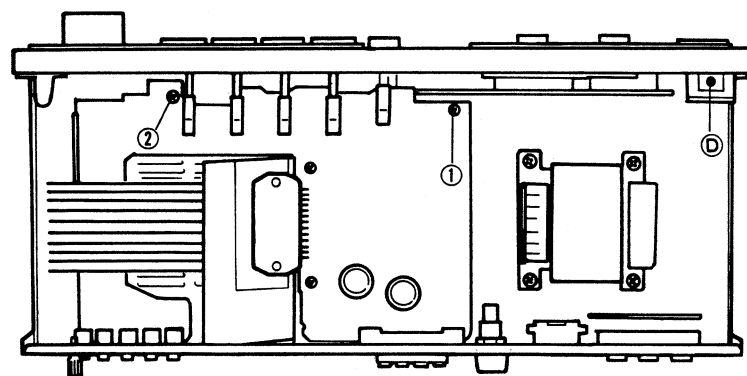

Fig. 2
4. Remove screws A ~ C and plastic rivet D to set the front panel free. (Fig. 2, Fig. 4)